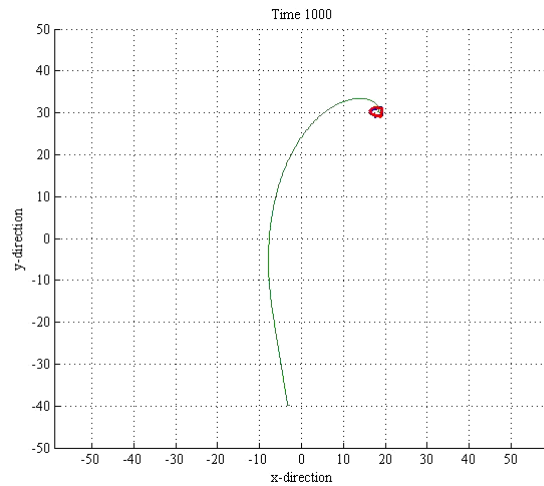
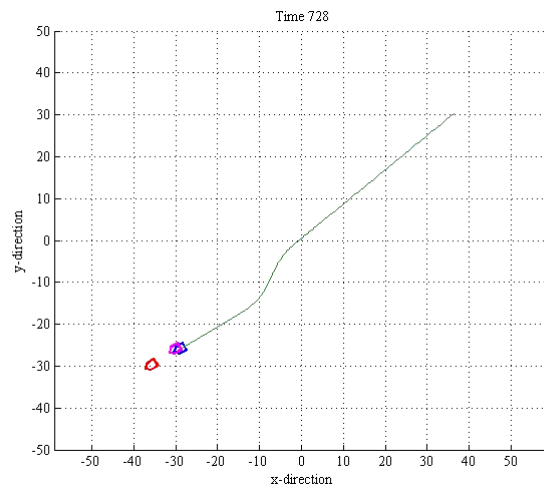

Figure 4 Car motion under fuzzy control.
Figure 5 Car tracking virtual target using fuzzy control.
6. Store your program and demonstrate to the tutor at the mark-off period. Your result may look like Figure 4 and Figure 5.
4. Evaluate the fis to obtain velocity and turn-rate commands and use it to move the car in the simulation run. Your result may look like Figure 4.